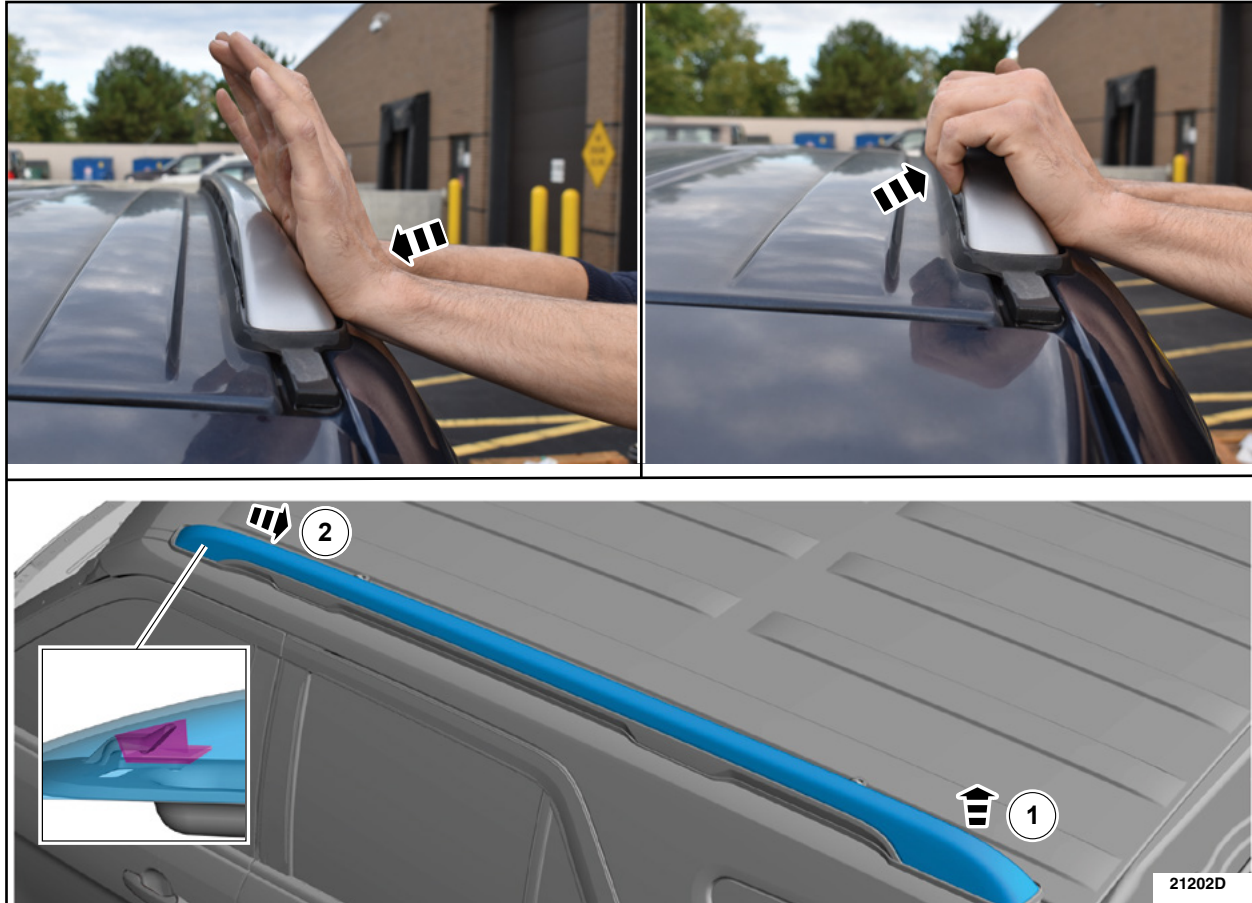

FIGURE 5
a. Remove the affected roof rack cover(s). See Figure 5.
2. Reinstall the roof rack cover by reversing the removal procedure. See Figure 5 on Page 5.